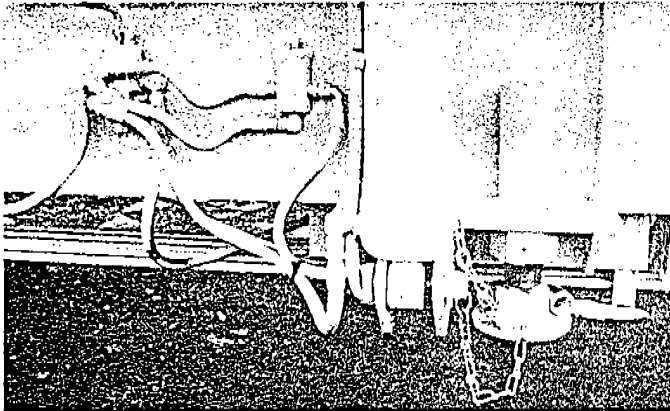

Fig. 95
- b. Loop the safety chain through one of the pipes on the plate. Hook the chain lock into the chain link. (Fig. 95)